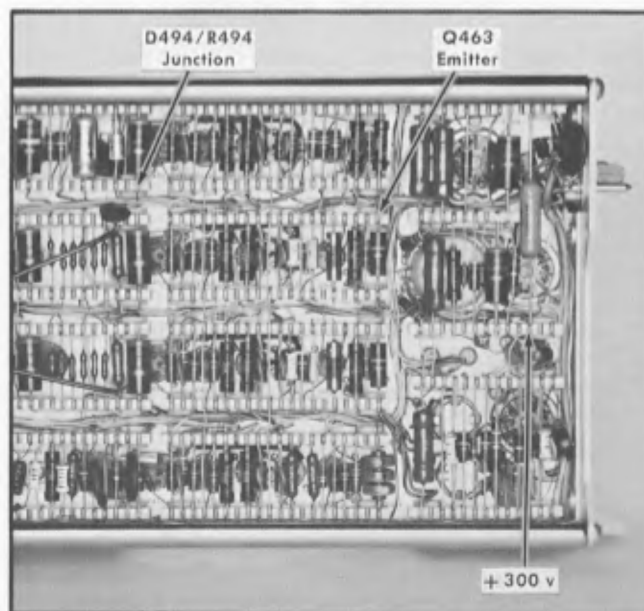

Fig. 6-1. Right side view, rear portion of the Type 3A74, showing the location of the test points.
- a. Connect a dc voltmeter between the D494/R494 junction (see Fig. 6-1) and ground.
- Connect a binding post adapter (item 12) to the channel 1 input connector.
- Connect a 2' (approx.) jumper lead with insulated test prods between the +300 volt test point (see Fig. 6-1) and the channel 1 Input connector center conductor.
- Connect a coaxial cable with BNC cable with BNC plug connectors on each end (item 4) between the Calibrator output connector and the channel 1 connectors. (Use a coaxial connector adapter, item 13, to complete the connections if required.)
- Connect the probe from a test oscilloscope (item 4) to the emitter of Q463 (see Fig.6-1).